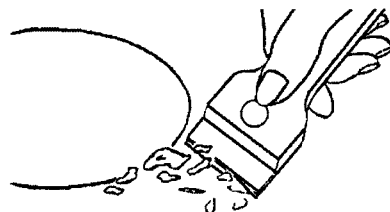

Fig 4
- First remove large food bits and grease drops from the cooking surface with the special scraper (Fig 4). The cooking surface must be cleaned and cared for regularly. Use only reliable and verified cleansing agents, designed specially for ceramic-glass surfaces. Any attempt to use other detergents may result in considerable damage, as they may be too invasive and damage the surface or produce scratches. Under no circumstances should abrasive sponges or irritating chemical detergents be used such as oven sprays or spot removers.